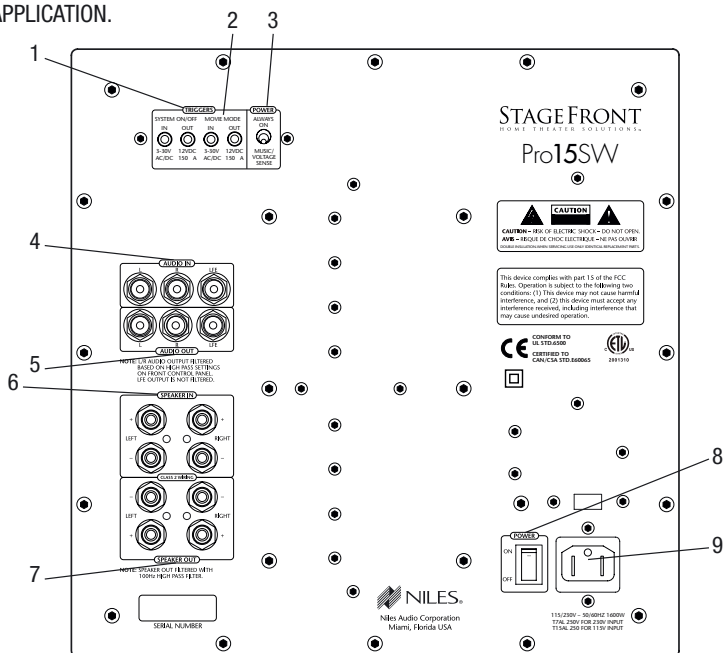

Figure 4. The Pro15SW's rear panel contains the subwoofer's signal connectors and power controls.
The Pro15SW's signal connectors and power controls are located on the unit's rear panel, as shown in **Figure 4**. They function as follows:
- 5. AUDIO OUT jacks: Use these gold-plated line-level RCA output jacks to connect line-level stereo and LFE audio signals to drive another Pro15SW. The LFE output is unfiltered, but the L/R output signals are routed through the variable (60 to 160 Hz) HIGH-PASS filter, and the response will be contoured according to filter settings (see **Figure 4** on page **8**).*